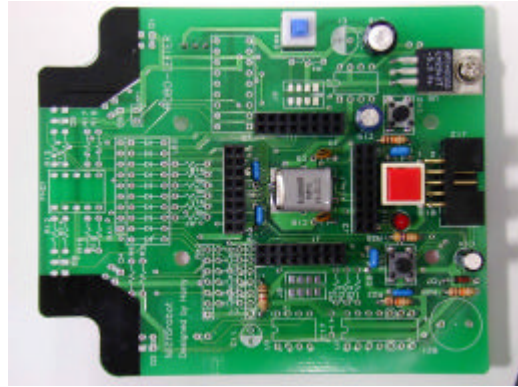

Fig 2.10
(6) Insert the batteries. Attach the 5051 female connector to the J9 male connector. Depress push switch. Use voltmeter to check LM2940. Place voltmeter on positive pin and middle pin. Output should be between **4.97~5V**. **If the reading is below 4.95V**, the robot will be unstable.
### **(7)~(15) Refer to Fig 2.10**